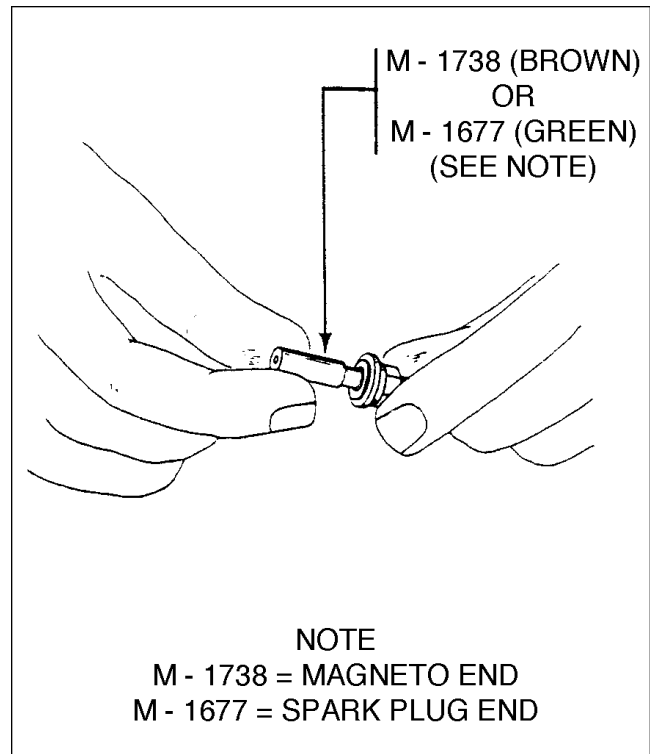

Figure 8-32. Installation of Insulator Sleeve
6. Place green M-1677 Insulator Sleeve over the silicone insulation. Refer to Figure 8-32.